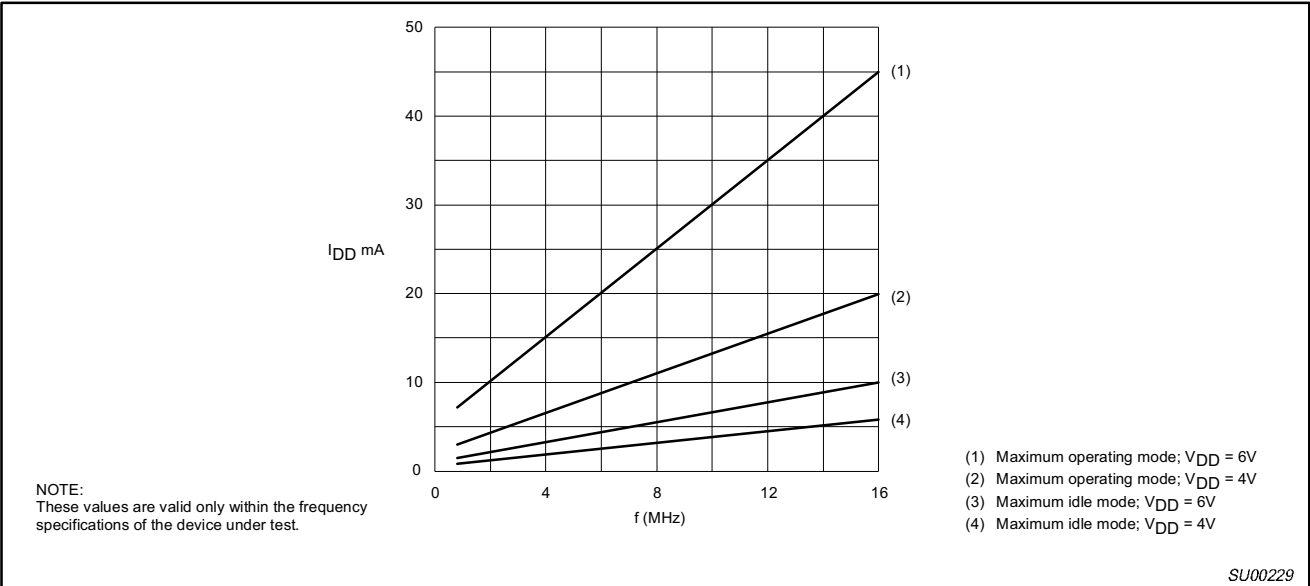

Figure 8. Supply Current (I_{DD}) as a Function of Frequency at XTAL1 (f_{osc})
- See Figures 8 through 12 for I_{DD} test conditions.